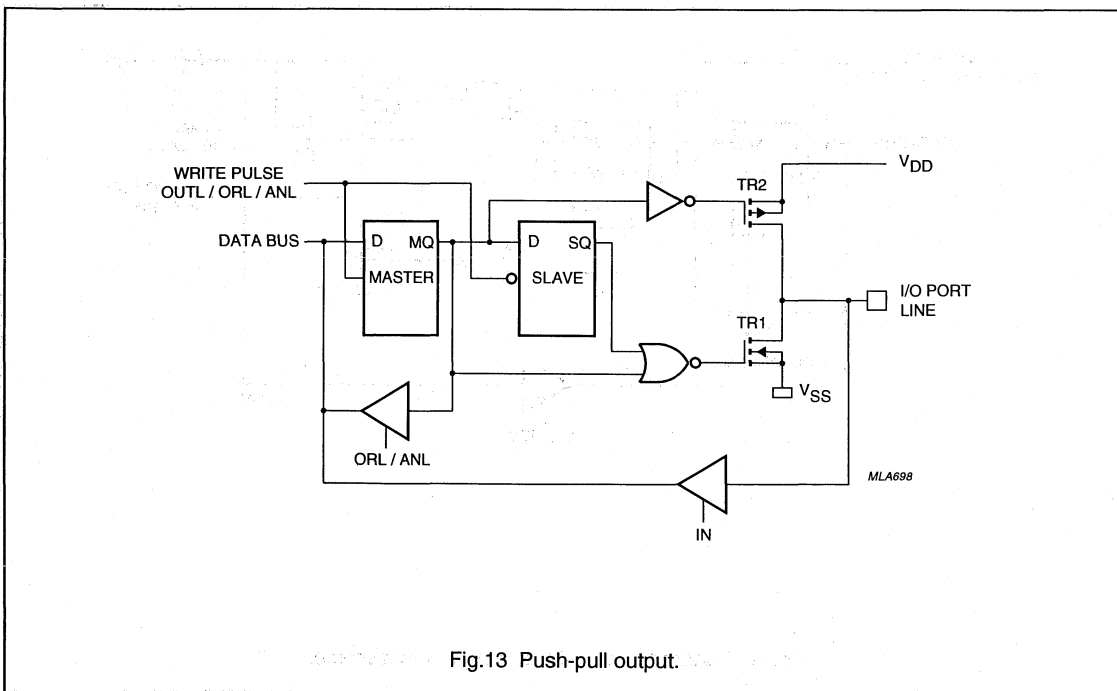

Fig.13 Push-pull output.
- Option 3 Push-pull; drive capability of the output will be 5 mA (typ.) at  $V_{DD} = 3$  V in both polarities. Since short circuit currents would flow during input, push-pull lines must only be used as outputs (see Fig. 13).